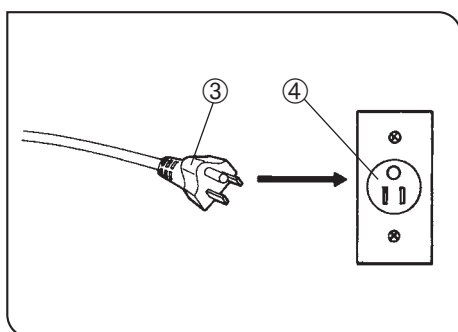

Fig. 43
2. Plug the power cord plug ③ into the wall outlet ④ (Fig. 43).